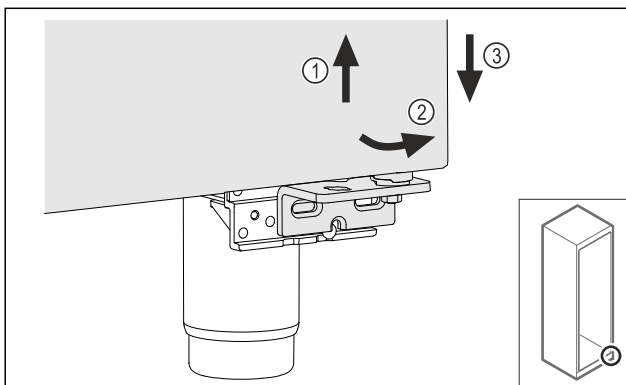

Fig. 11
- Lift the door slightly Fig. 11 (1), tilt it forwards at the bottom Fig. 11 (2) and lower it Fig. 11 (3).